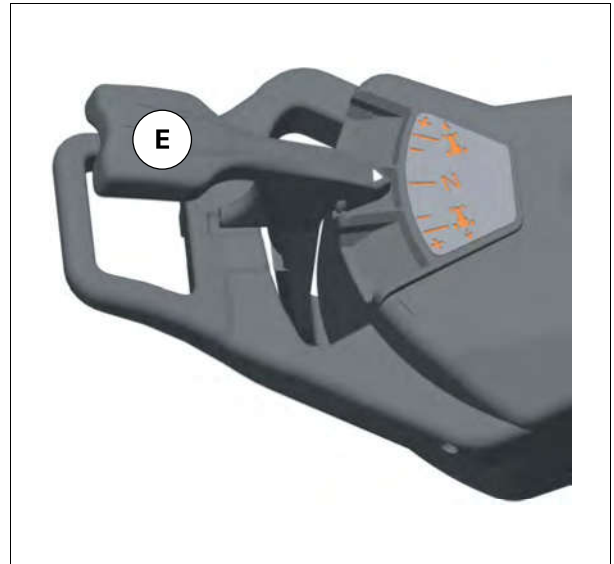

Fig. 7.
**Always place the transmission lever in neutral and shuttle control lever (E) fig. 7 in NEUTRAL position before leaving the operator's seat. Apply the hand brake.**